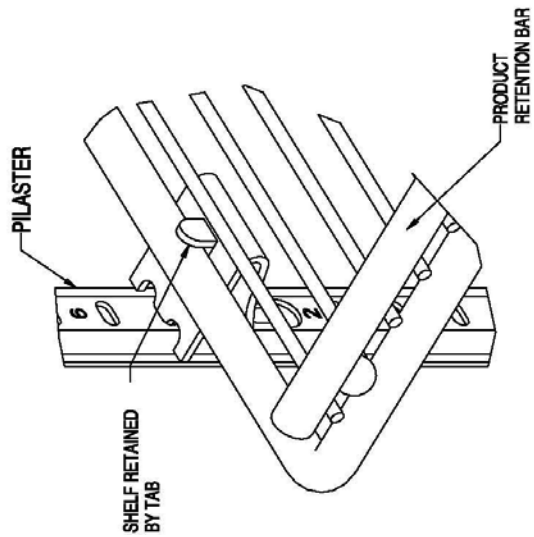

Figure 1.
d. Shelves: Included are three epoxy coated wire shelves per door opening (3 per HF1/HR1, 6 per HF2/HR2, 9 per HF3/HR3). Shelf spacing is adjustable with enclosed shelf supports to suit requirements. (Figure 1.)